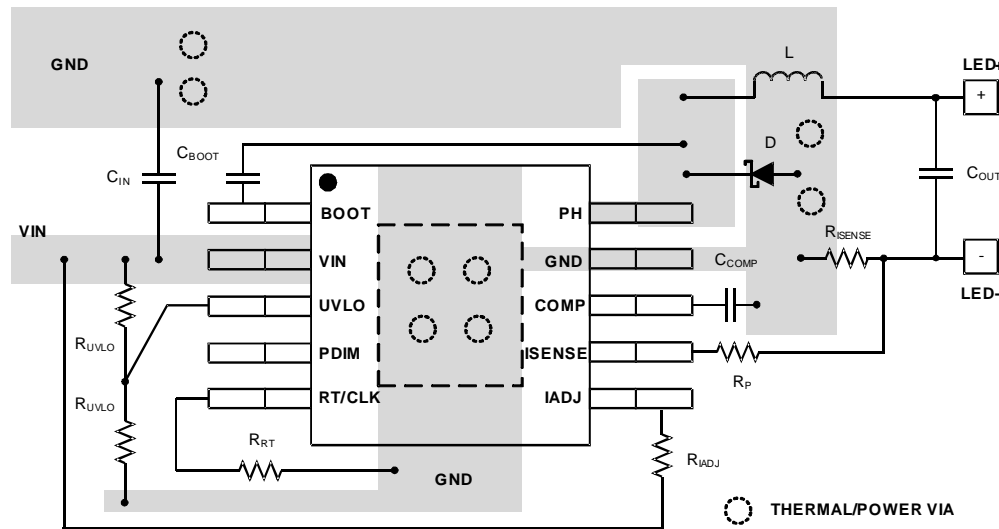

Figure 17. Layout Example
An example of a proper layout for the TPS92513 is shown in Figure 17. Creating a large GND plane under the integrated circuit (IC) for good electrical and thermal performance is important.